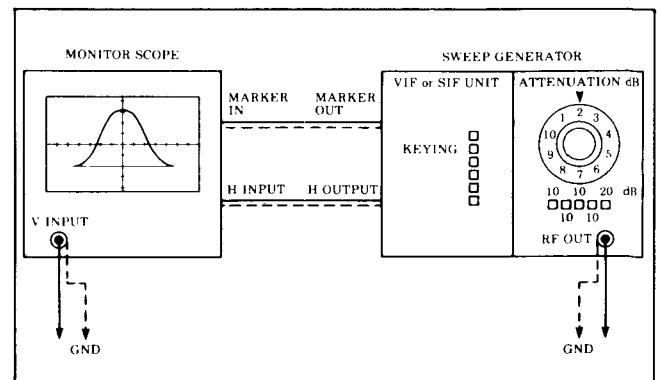

Fig. 28 Connection of Measuring Equipment
1. Set the BAND SW of the deck to the VHF high position (VH) (NV-G10, G7EG/EO). And turn the tuning volume so that the voltage at BT terminal of the tuner becomes 15 ± 1 V.
4. Connect the VIF SWEEP to TP703 and connect the MONITOR SCOPE to TP707 as shown in Fig. 28.